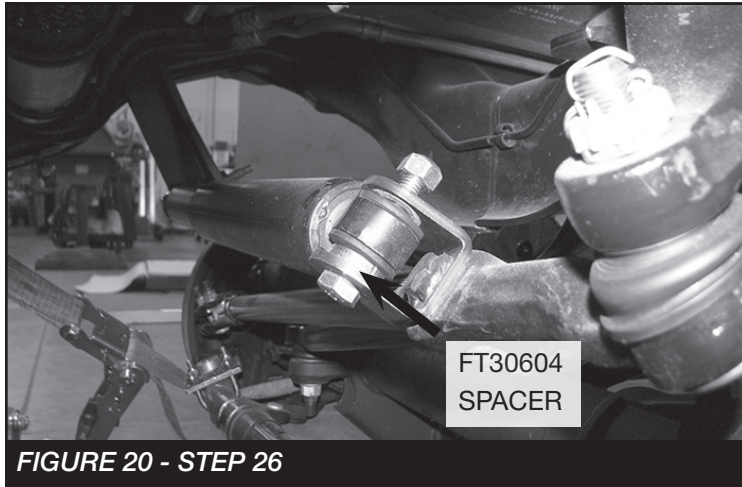

FIGURE 20 - STEP 26
26. Install FT30686 (Stabilizer Clevis) on the factory steering stabilizer using the supplied M12 hardware. **NOTE: Install FT30604 (spacer) like shown in the figure below.** Install the stabilizer using the supplied 9/16" washer and nut to the drag link. Using the factory hardware install the tapered end into the new Fabtech bracket. Torque to 127 ft-lbs. **SEE FIGURE 20**